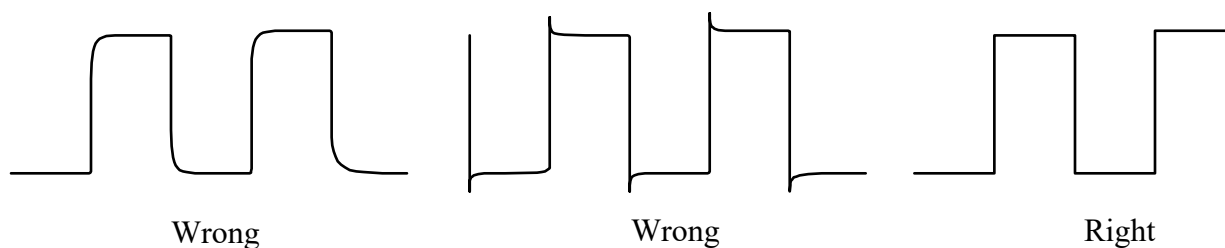

Figure L1.1
- Using the adjustment tool included with the BNC oscilloscope probes gently adjust the compensation control on the probe tip while observing the image displayed on the screen. This tool looks like a small black plastic screwdriver and fits into the hole located near the BNC termination on the probe. Continue to adjust the probe until the square wave has as “flat a top” as possible, as seen on the far right of Fig. L1.1.